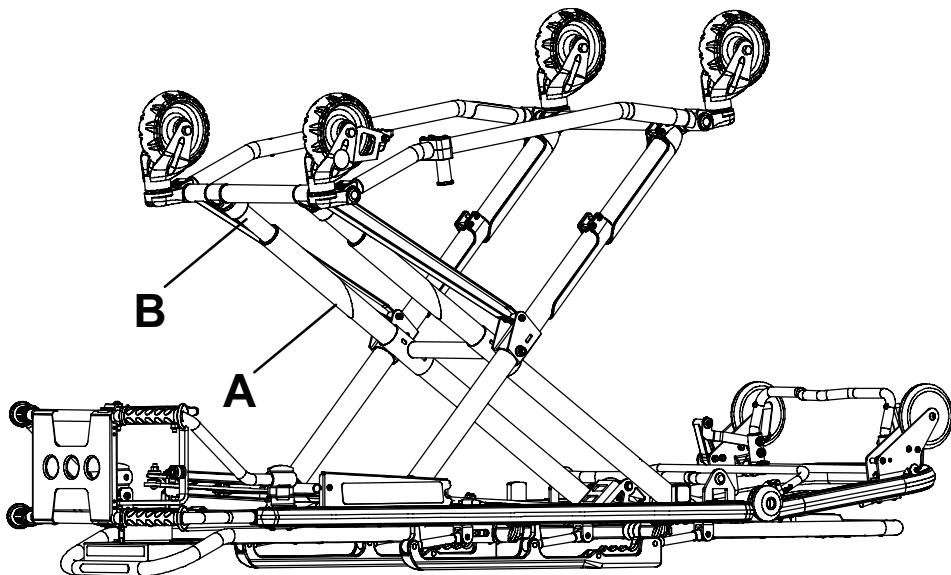

Figure 27 – Base lubrication locations
3. Using the plastic applicator tube, spray **Tri-Flow™** with **Teflon®** lubricant (6082-199-012) in the gap between the upper (A) and lower lift tubes (B) on both foot end legs (Figure 27).